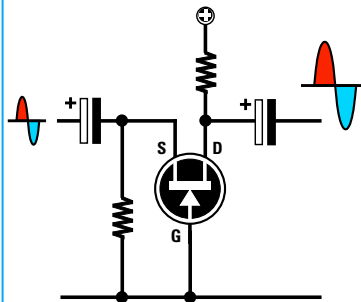

Fig.509 Common Gate
**Common Gate o Gate comune (fig.509)**